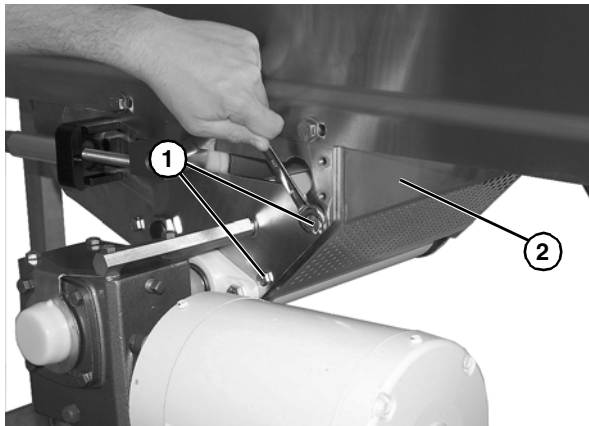

Figure 36
6. Remove two screws (**Figure 36, item 1**) from each side of center drive and remove stationary guard assembly (**Figure 36, item 2**).